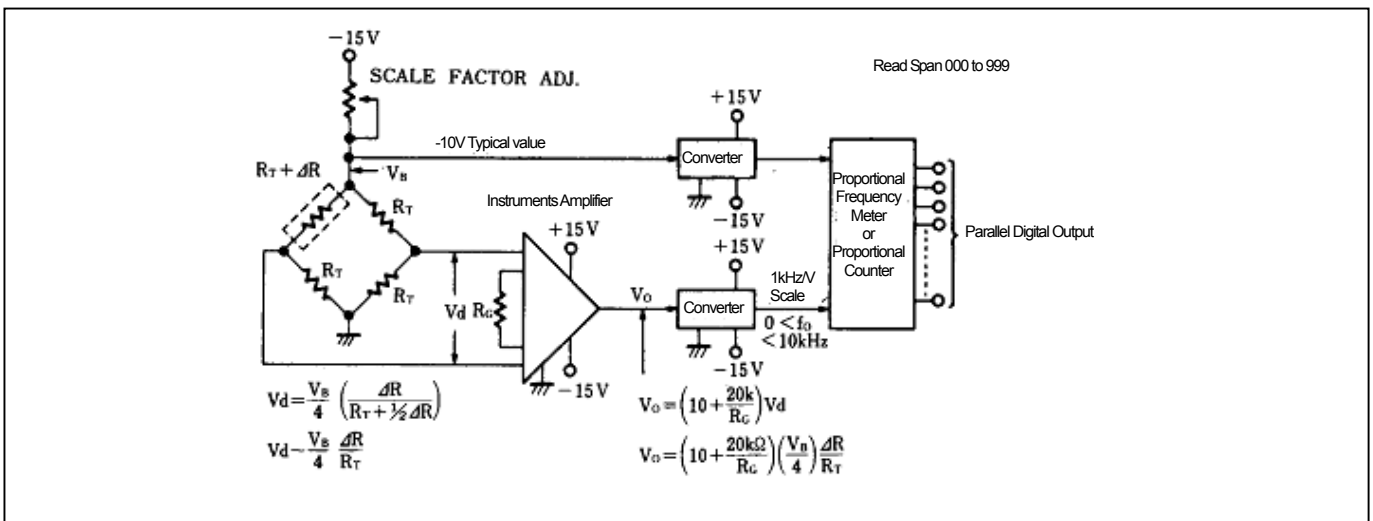

Figure 13. Proportional meter system
The accuracy of the systems is better on used proportional method, for measurement equipment. Use the NJM4151, Figure 13 shows the proportion by weight measurement system. First, the strain gauge bridge circuit, and the cells of weight detecting detect the weight. Then generates a difference voltage. The Difference voltage (VD) for the converting bridge approximated $V_B \Delta R / R_T$ in a small range of resistance changes of strain - gauge. Necessary information is $\Delta R / R_T$ and the voltage (VB) across the bridge must be stable. Instrumentation - amplifier amplify the low input differential voltage (VD). It is used to eliminate the common mode input voltage. The voltage across the bridge (VB) converted to frequency (fB). Then, the output voltage amplitude (VO) converted to frequency (f0). Hereby, ADC is designed for proportional meter. The voltage across the bridge converter is 1Hz / V. Amplifier voltage converter is 1kHz / V conversion factor. Proportional counter and frequency meter type of proportional will be used to convert frequency ratio f0/fB. The first advantage of conversion technology by the proportional method is that it is independent of the voltage across the bridge. Frequency (fB) is proportional to the bridge voltage (VB). Output frequency (f0) is proportional to the VB. f0/fB is independent of VB, only proportional to $\Delta R / R_T$.